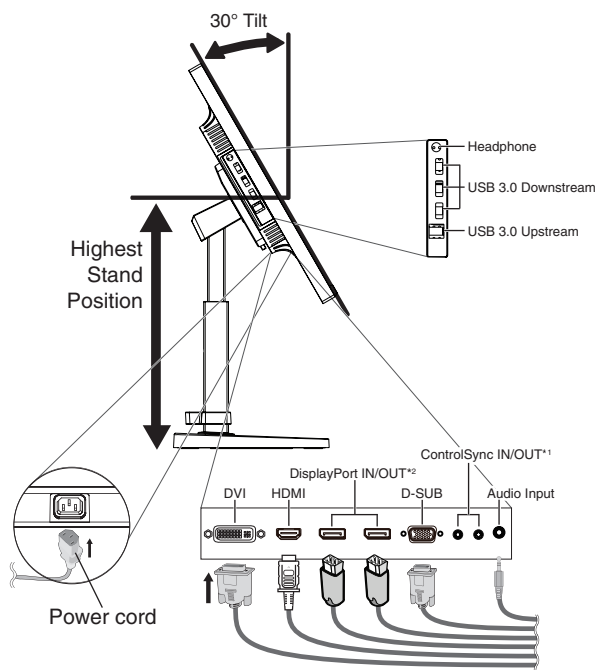
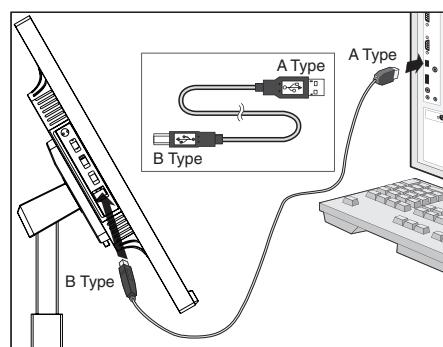

Figure C.1
Figure C.1a
- Connect all cables to the appropriate connectors (**Figure C.1**). When using the USB cable, connect the B type connector to the USB upstream port on the right back side of the monitor and the A type connector to the downstream port on the computer (**Figure C.1a**). If using the cord from a USB device, plug into the downstream port of the monitor.